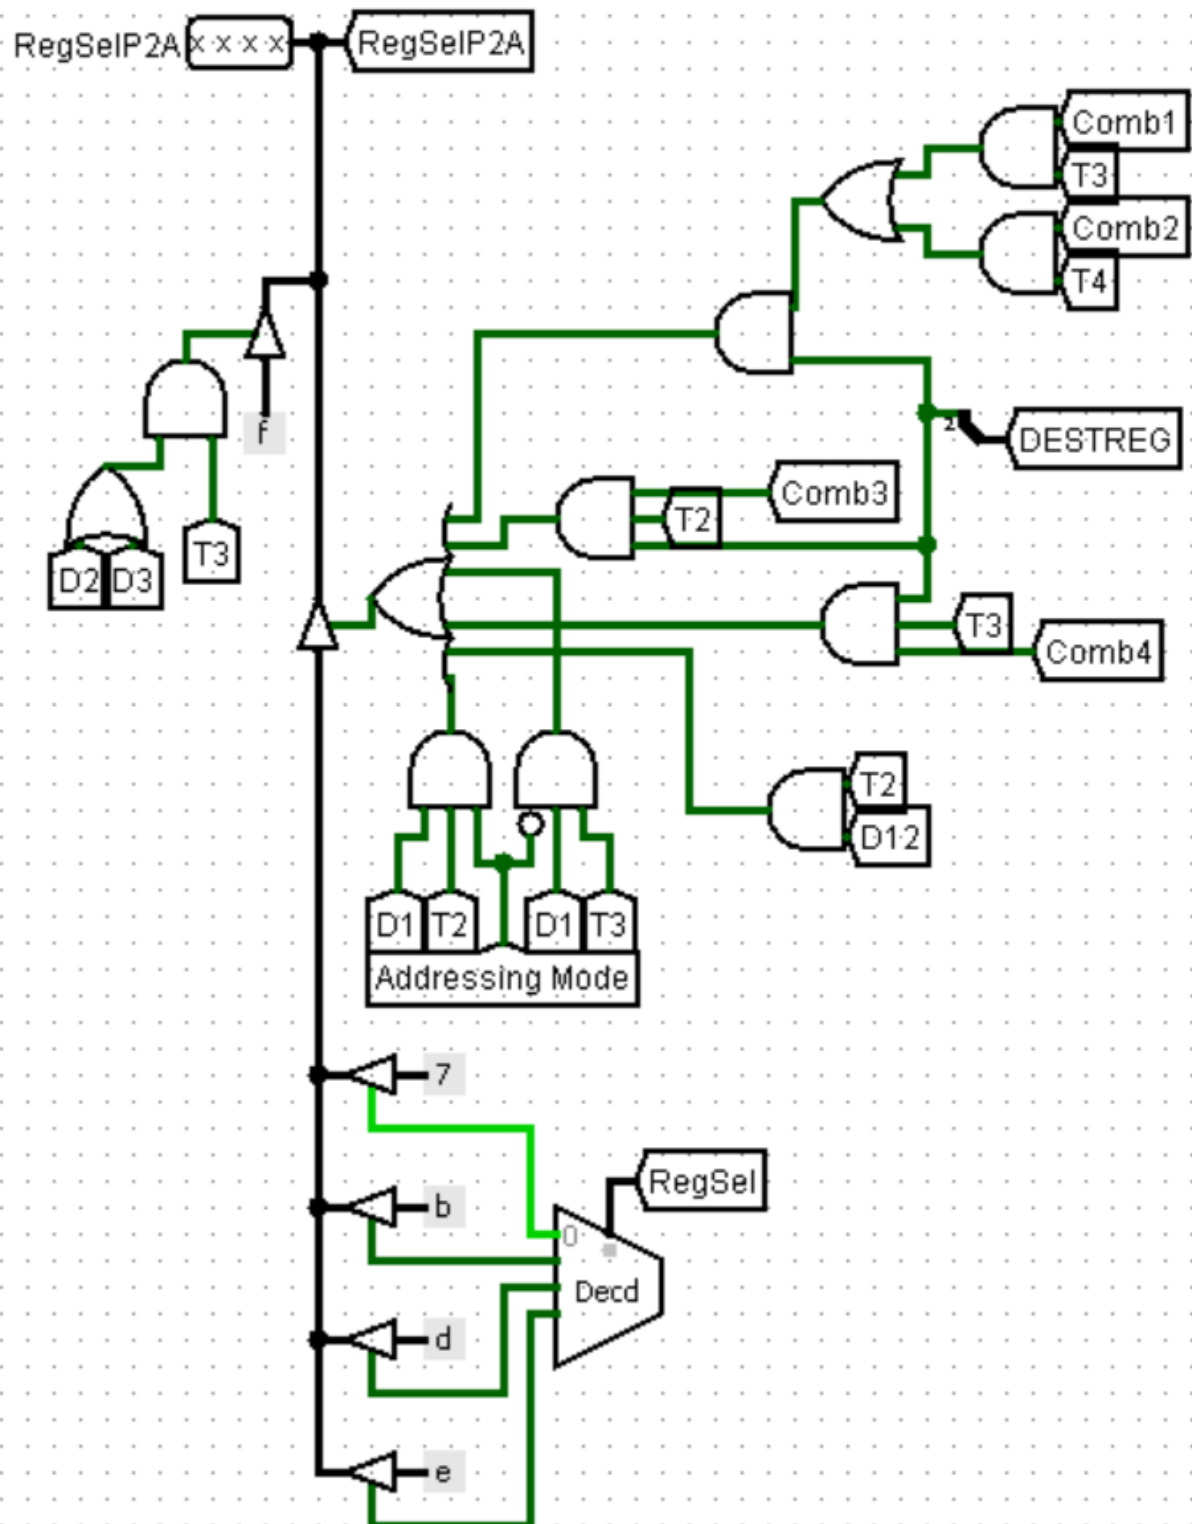
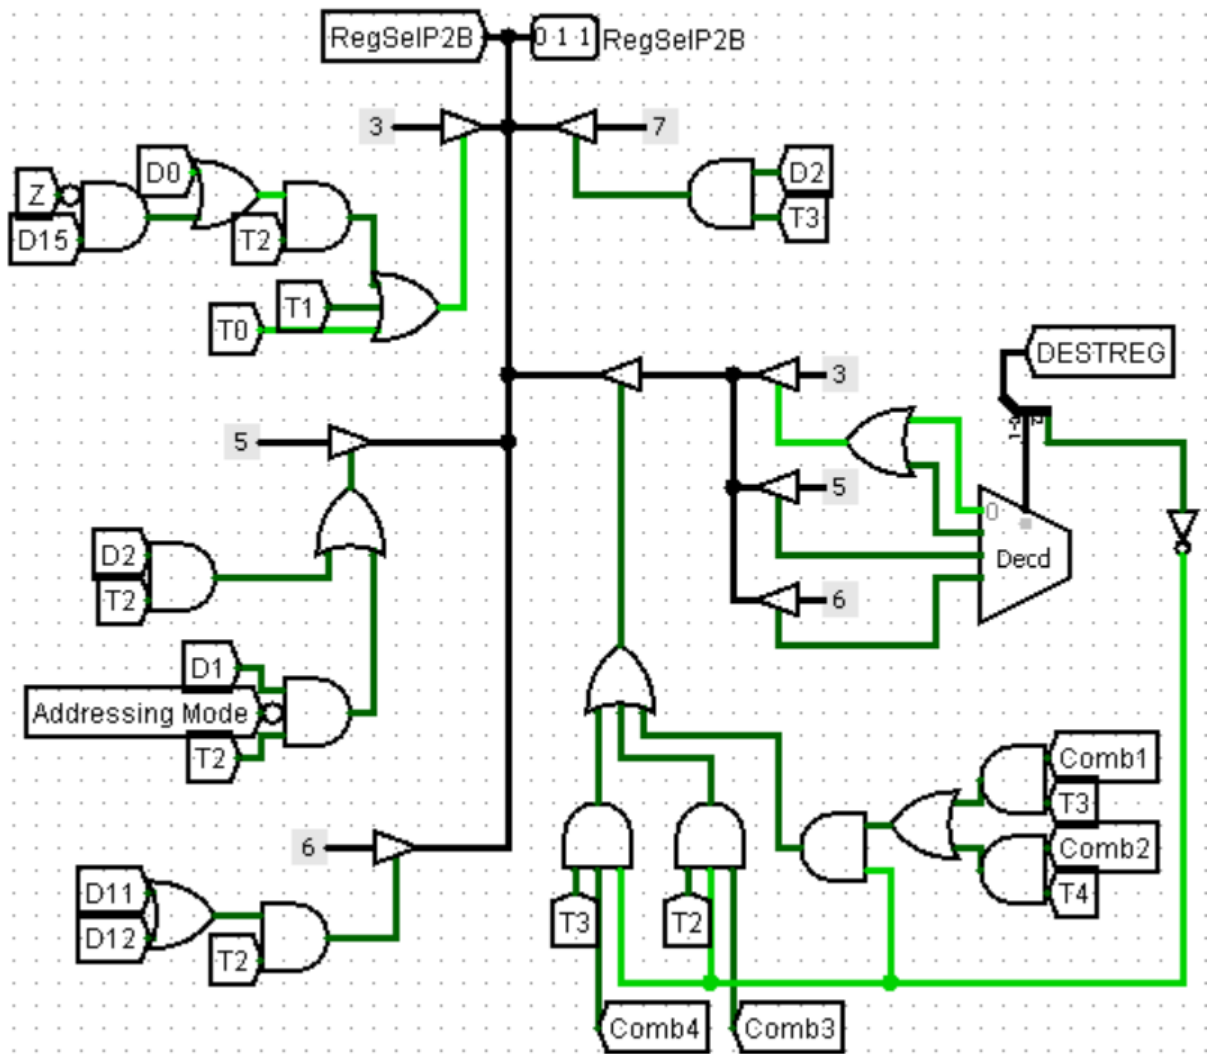

Figure 20: Part 2A RegSel in Control Unit
Figure 25: Part 2B RegSel in Control Unit
2. We will give this requirement to RegSel of Part 2B AND RegSel of Part 2A, as an input, so that it will not operate if the DESTREG is not in that corresponding place. See visual explanation in Figure 25 and Figure 20.
4. We can use decoded RegSel, which also corresponds to DESTREG's least significant 2 bits. It will decide what the register will be (See Figure 25 and Figure 20)
- Set RegSel of ARF to 011 (See Figure 25).